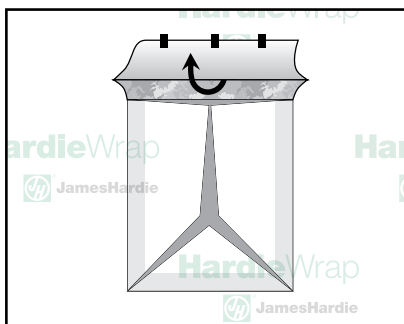

figure 4
Step 2: Fold the top flap up and out of the way and fasten temporarily (fig. 4).